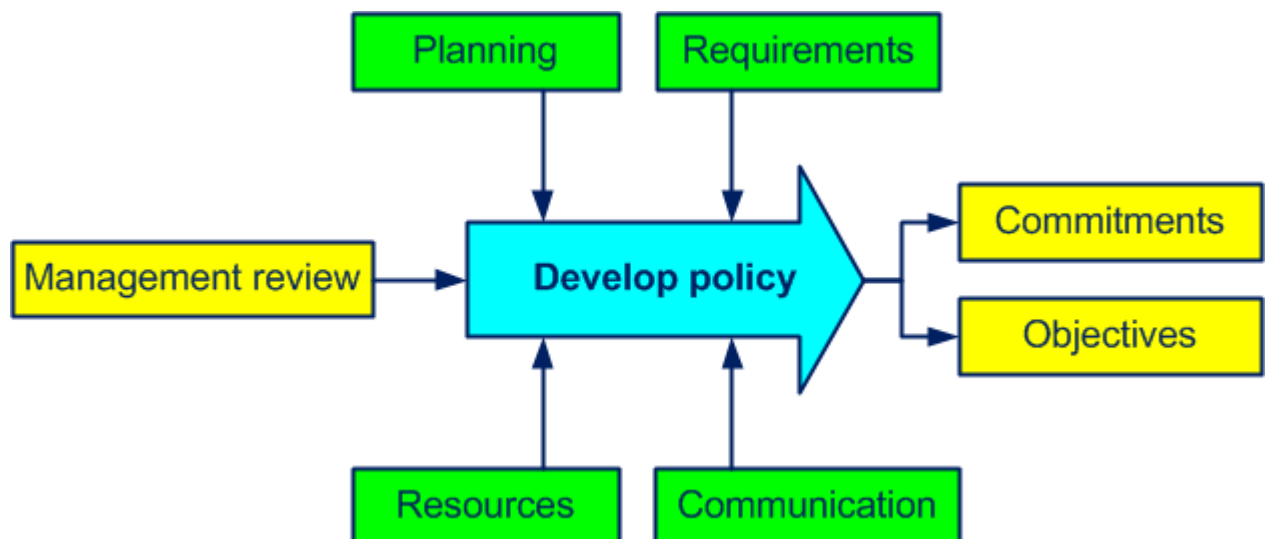

Figure 4-3. The Develop policy process
- develop and promote the quality policy (see figure 4-3) which: